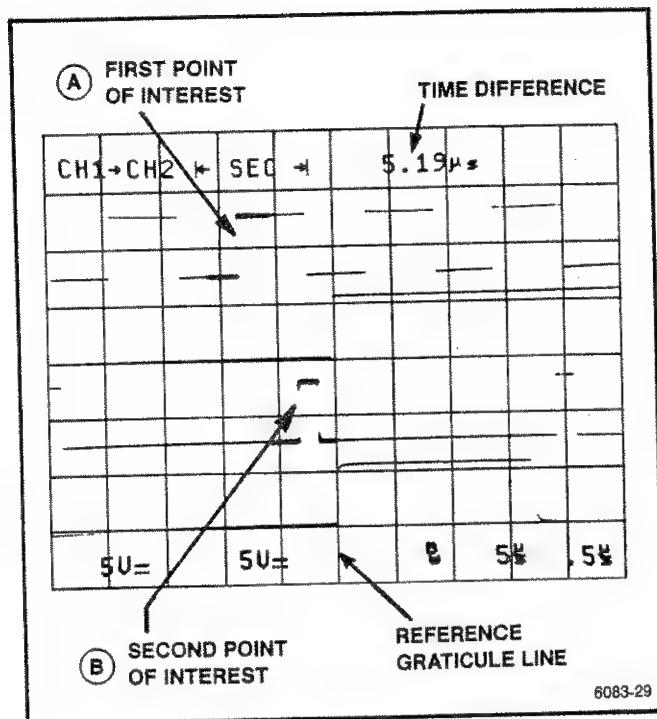

Figure 6-15. Time difference using Δ TIME with two delays.
6. Using the center horizontal graticule line as a reference point, set the reference delay to align the point of interest to be measured (point A in Figure 6-15) from to that reference point with the I- OR DELAY control. Set the Δ delay to align the second point of interest, displayed in the second B Sweep (point B in Figure 6-15), to the reference point using the $\text{-I OR } \Delta$ control. The measured